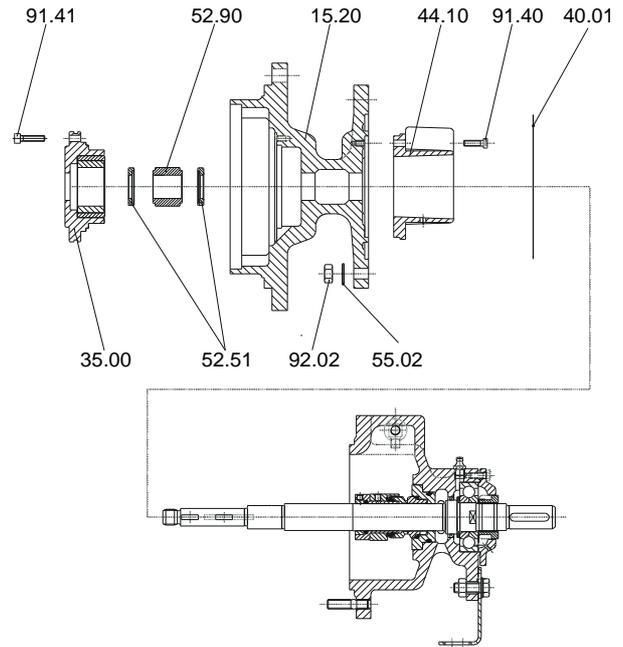

Fig. 3
8. Remove Allen screws 91.41 and dismantle bearing carrier 35.00 (lever out if necessary) (fig. 3).
9. Withdraw bearing bush 52.90 and spacer rings 52.51 from the shaft (fig. 3).
10. Loosen hexagonal nut 92.02, remove washer 55.02 and dismantle intermediate flange 15.20 (fig. 3).